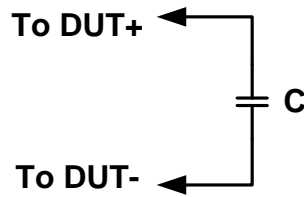

Fig. 5. Using Digital Multimeter SFP to measure value of a resistor
4. Connect the two terminals of capacitor between DUT+ and DUT- terminals on the proto board. Refer to Figs. 5 and 6.